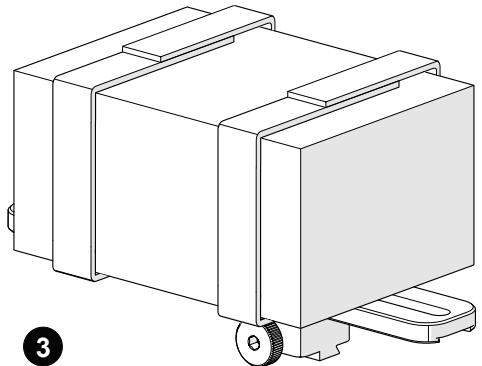

Fig. 103 - Mount bracket on a frame bar
3. Secure the preamp to the bracket attaching each side of the velcro (Fig. 103).